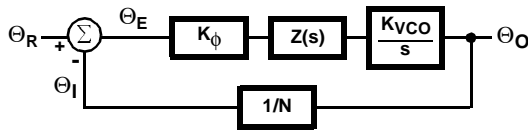
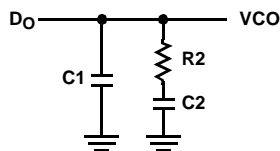

FIGURE 22. PLL LINEAR MODEL
FIGURE 23. PASSIVE LOOP FILTER
A linear control system model of the phase feedback for a PLL in the locked state is shown in Figure 22. The open loop gain is the product of the phase comparator gain (K_{ϕ}), the VCO gain (K_{VCO}/s), and the loop filter gain $Z(s)$ divided by the gain of the feedback counter modulus (N). The passive loop filter configuration used is displayed in Figure 23, while the complex impedance of the filter is given in Equation 2.